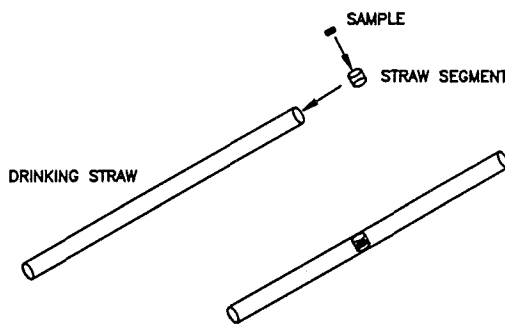

Figure 3-1. Correctly Positioned Sample
5. Place the straw segment inside the drinking straw, and move the segment until it is in approximately the middle of the length of the straw. Verify that the walls of the straw obstruct the open ends of the segment. Refer to figure 3-1.